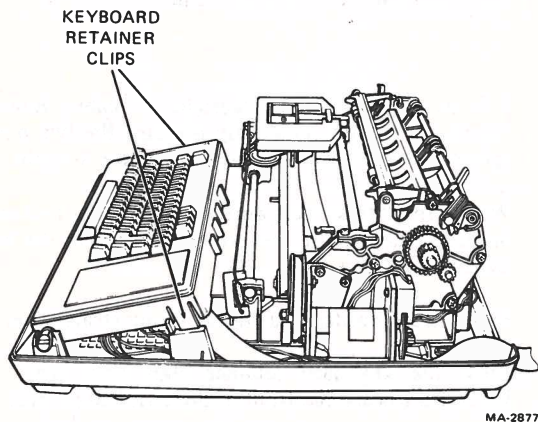

**Figure 2 Platen Removal**
5. Lift the bail bar to gain access to the platen. Remove the platen by simultaneously pressing the two platen release levers (Figure 2). Lift the platen straight out.